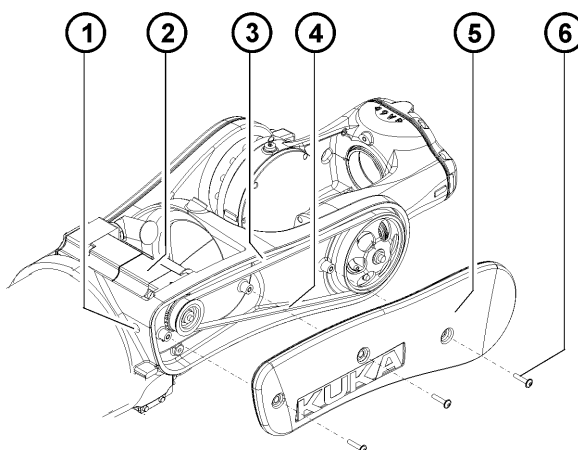

Fig. 10-4: Measuring and adjusting the toothed belt tension on axis 6
1. Remove 3 fillister head screws (>>> Fig. 10-4) and take off the cover.
3. Pluck the toothed belt (>>> Fig. 10-4) in the middle of the free length and hold the sensor at a distance of 2 to 3 mm from the vibrating toothed belt.
6. Check the seal (>>> Fig. 10-4) and replace it with a new one if damaged.
- Slacken the Allen screw (>>> Fig. 10-4) and nut on the rear of motor A6.